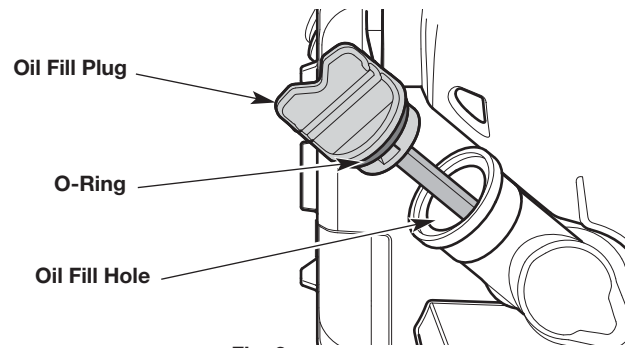

Fig. 2
9. Make sure the O-ring is in place on the oil fill plug (Fig. 2).